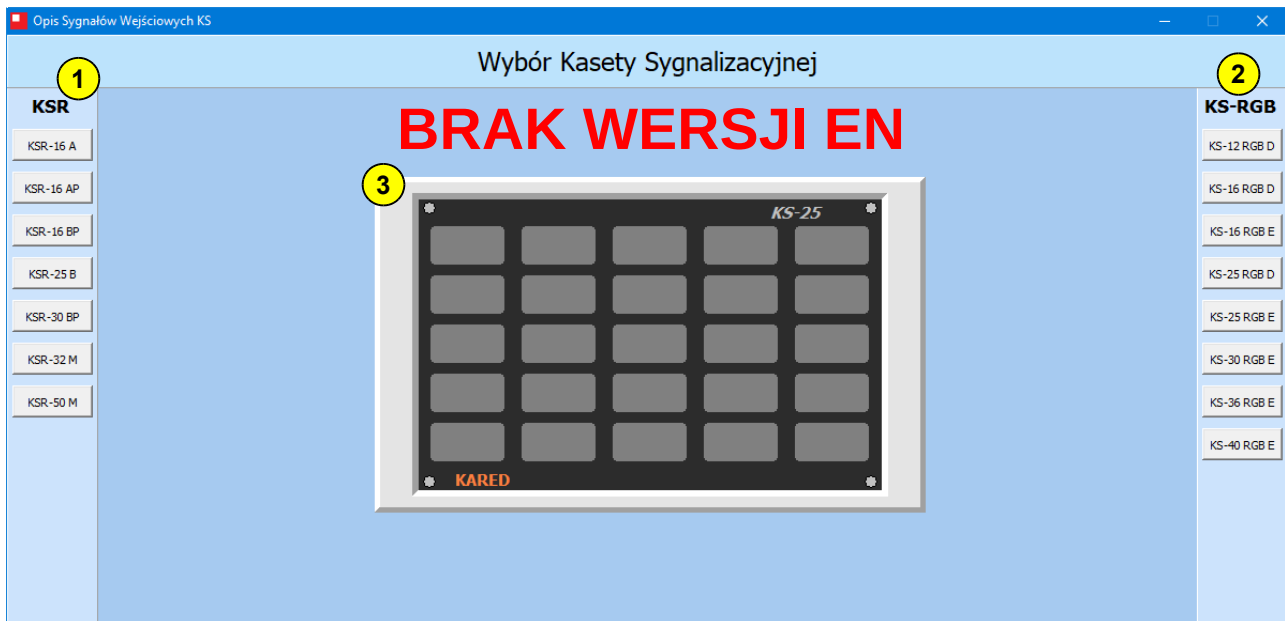

Fig. 11. Device selection
After starting the programme, a screen should show up (Fig. 11) allowing you to select the device for which descriptions will be prepared.
Button (4) closes the screen and takes the user back to the device selection window (Fig. 11).